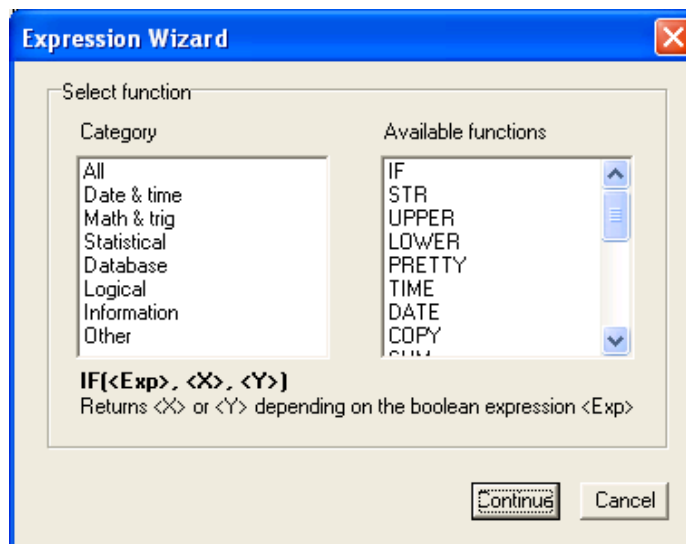

Figure 34 - Select Function Window
10. Click on the **Function** button to go to the **Select function** (Figure 34) window. After selecting the required function, click on the **Continue** button to close the **Select function** window and return to the **Expression Wizard**.